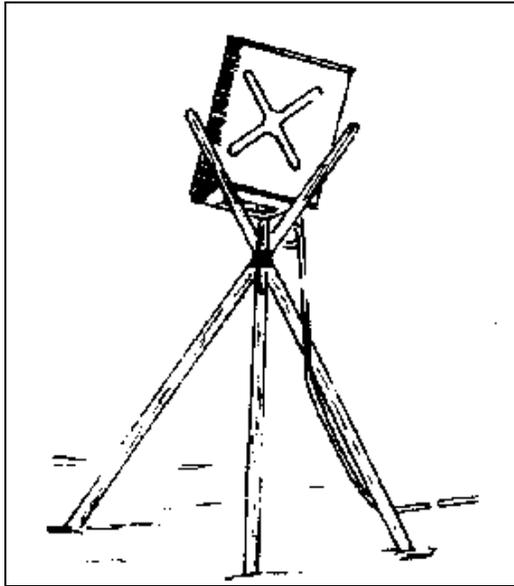

Figure 10
- If liquid fuel is to be used, the fuel can stand (optional item; the fuel can stand is available as an Additional Authorized Item) must be assembled in order to mount the fuel can in the proper position. The fuel can, outfitted with a fuel can gravity feed adapter, must be mounted to the stand with the gravity feed adapter facing down. The design of the fuel can stand places the fuel can 2-3 feet above the fuel flow control valve. See Figure 10 below for an improvised support stand.
- Alternately, construct a fuel can tripod with three poles approximately 4.5 feet long (Figure 10). Tie these together about two-thirds of the length from the bottom, with nylon cord, rope or wire. Use a sling rope to secure the fuel can to the tripod. The height of the poles may need to be adjusted to ensure that the fuel can is two to three feet above the fuel flow control valve. If the fuel can is too high or too low, it may interfere with proper flow of fuel into the stove.
- (1) Lift fuel selector control knob on the Fuel Flow Control Valve and set in accordance with the outside temperature. There are two positions, ABOVE  $-25^{\circ}$  F and BELOW  $-25^{\circ}$  F. Pull the knob and rotate it to the desired position. Release the control knob, making sure that the knob locks in the indentation for the desired position.
- (2) Set fuel ON/OFF control to ON.
- (3) Set flow adjustment knob to HI; wait 2 to 5 minutes in order to allow the fuel flow control valve and burner up-tube to fill with fuel. This step should only be performed under conditions below  $-25^{\circ}$  F ( $-32^{\circ}$  C), degrees below zero. Under warmer conditions it will not be necessary to wait 2-5 minutes.
- (4) Shake or tap hoses to clear any air bubbles that may be trapped in the hoses.
- (5) Open the door assembly and verify that the Burner Cover Assembly has been installed in the door frame. Shut and latch the door.